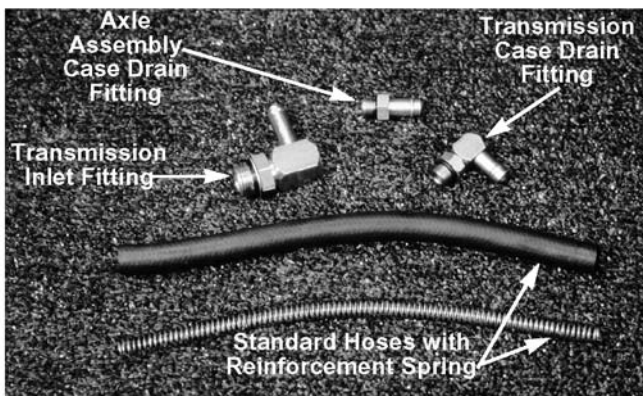

Figure 5-5.
- D. Standard hoses with reinforcement spring. See Figure 5-5.